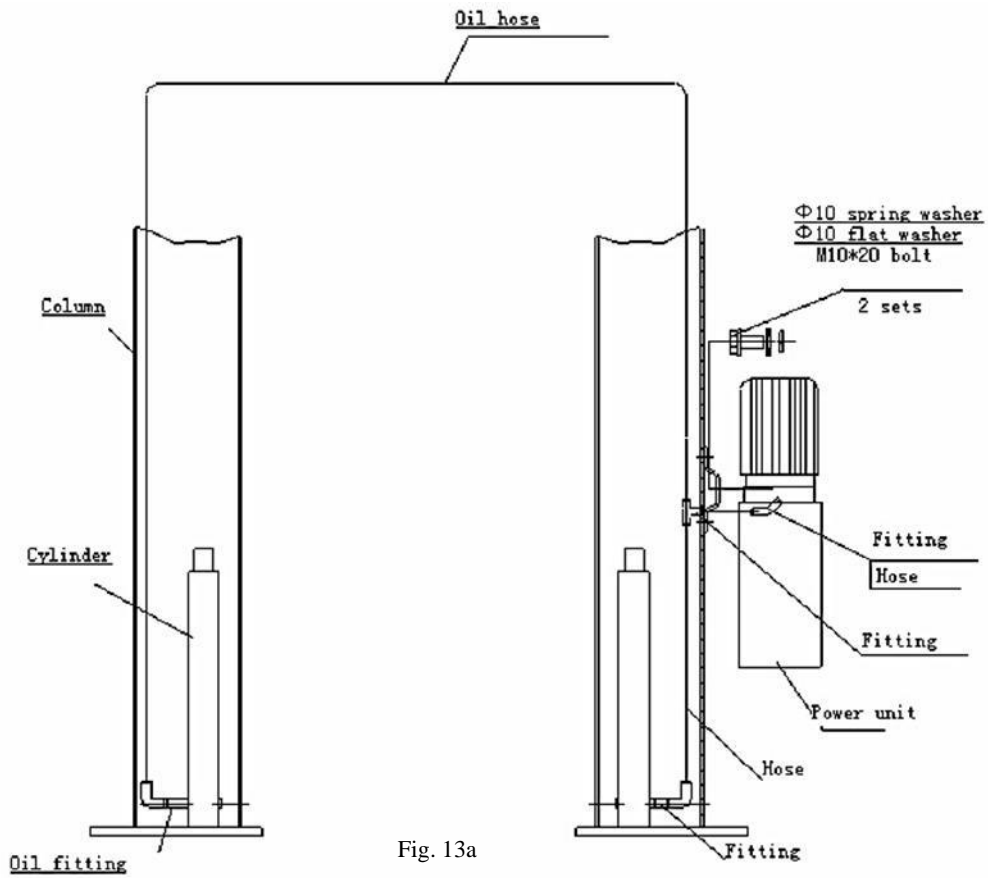
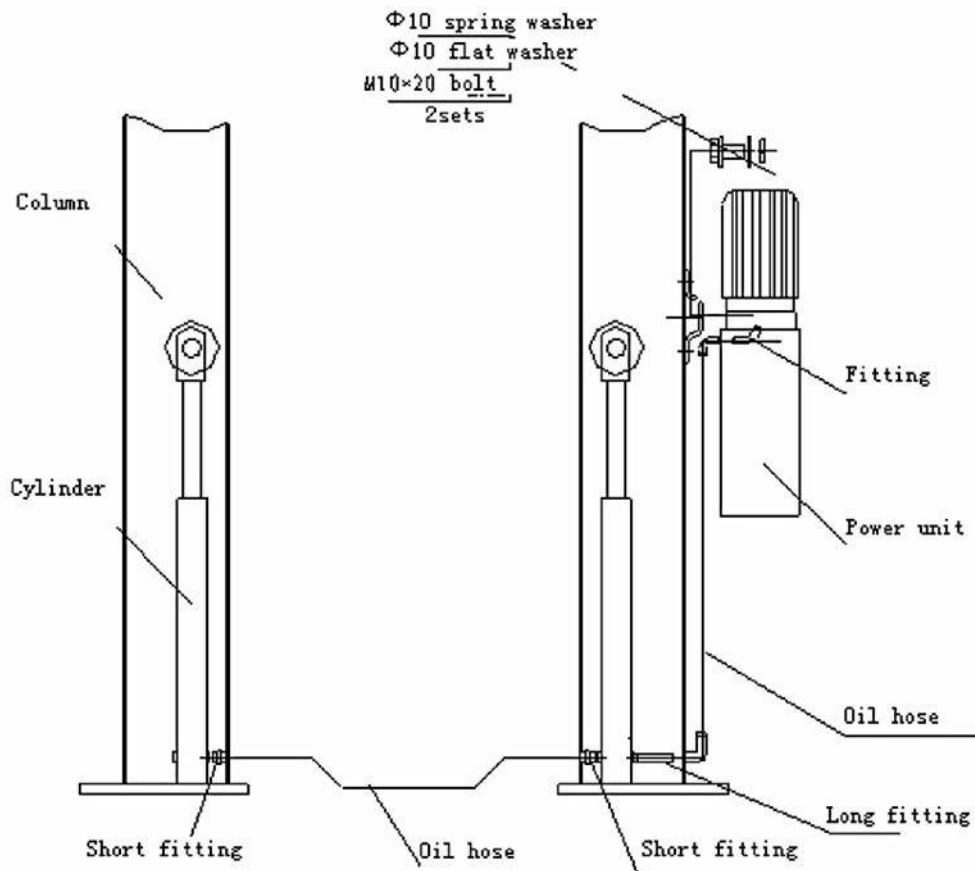

Fig. 13a
Fig. 13b
- Use two M10 Bolt s and washers to fix the power unit (as shown in Fig. 13a、 13b). for KT-M110 models, install the hydraulic line as shown in Fig. 13a , for KT-H100 models, , install the hydraulic line as shown in Fig. 13b and tighten all the fittings top prevent oil leakage.